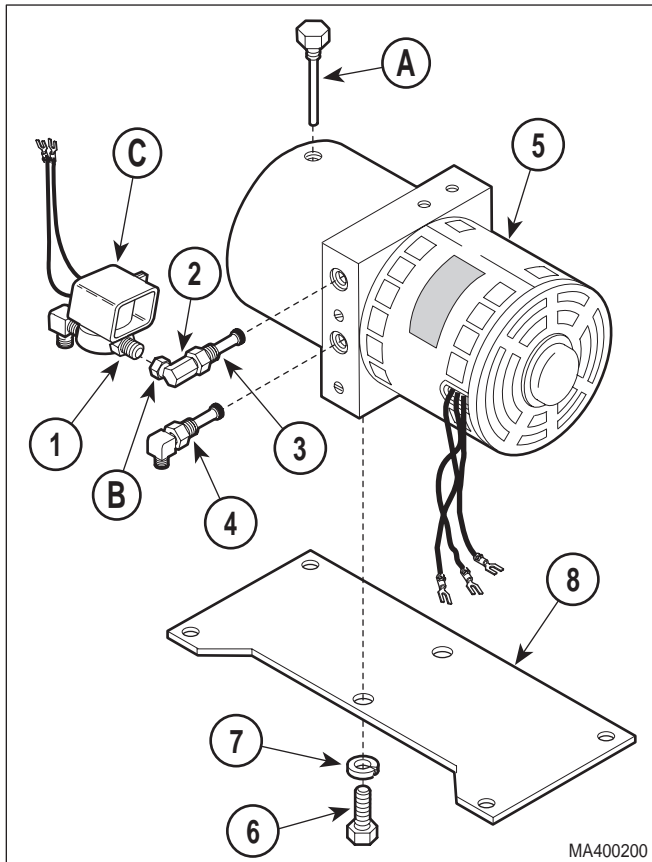

Figure 4-9. Motor Pump Removal / Installation
- (1) Unplug table power cord from outlet.
- (2) Remove motor pump assembly - Complete (Refer to para 4.9).
- (3) Remove filler cap and drain any remaining oil into drain pan (See Figure 4-9).
- (4) Using a wrench to hold male connector (1, Figure 4-9) stationary, loosen jam nut of elbow (2). Disconnect male connector/anti-cavitation solenoid valve from elbow.
- (5) Remove down functions shuttle valve (3) and up functions shuttle valve (4) from motor pump (5).
- (6) Remove two screws (6), lockwashers (7), and motor base (8) from motor pump (5).